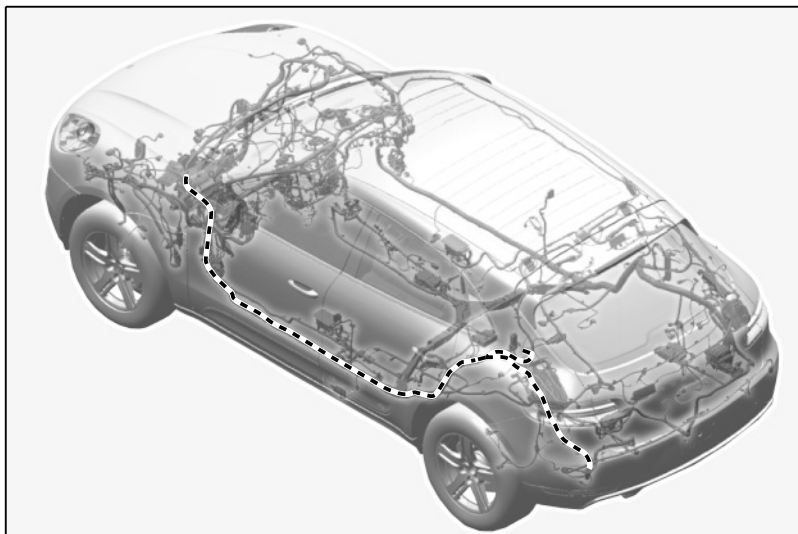

Figure 10
- 2.1 Overview of wire harness routing for the sports exhaust system (LHD ⇒ *Figure 10*).